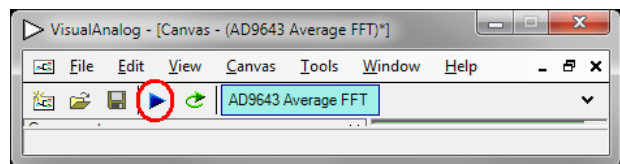

Figure 15. Run Button (Encircled in Red) in VisualAnalog Toolbar, Collapsed Display
7. Click the **Run** button in the **VisualAnalog** toolbar (see Figure 15).